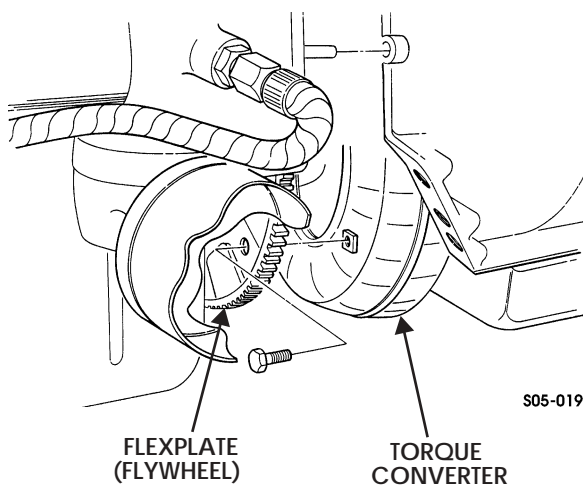

Figure 5-60: Torque Converter and Flexplate
23. Remove six capscrews from flexplate (flywheel) and torque converter (Figure 5-60).